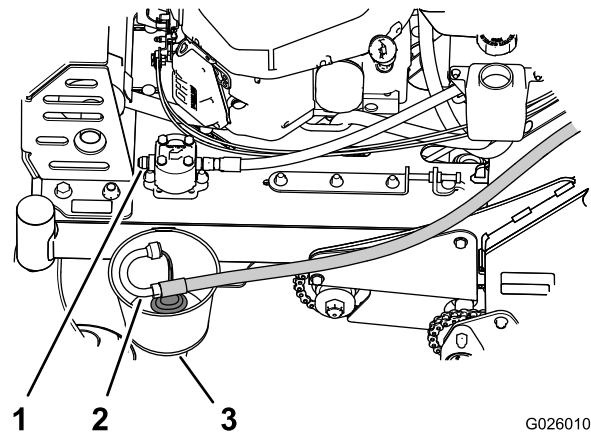

Figure 60
3. At the front of the auxiliary-hydraulic pump, remove the inlet hose from the hydraulic fitting in the pump, place the end of the hose in a drain container, and allow oil to drain (Figure 60).